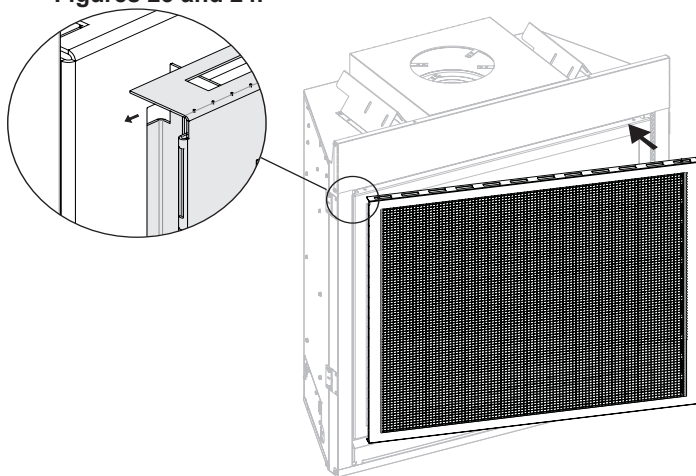

Figure 23
1. Tuck the left side of the fireplace screen between the glass frame and glass on the left side of the fireplace. Push firmly, bending the fireplace screen slightly, until you can fit the right side of the fireplace screen into the space between the glass frame and glass on the right side of the fireplace. Carefully let go, and the fireplace screen will spring into location. See Figures 23 and 24.